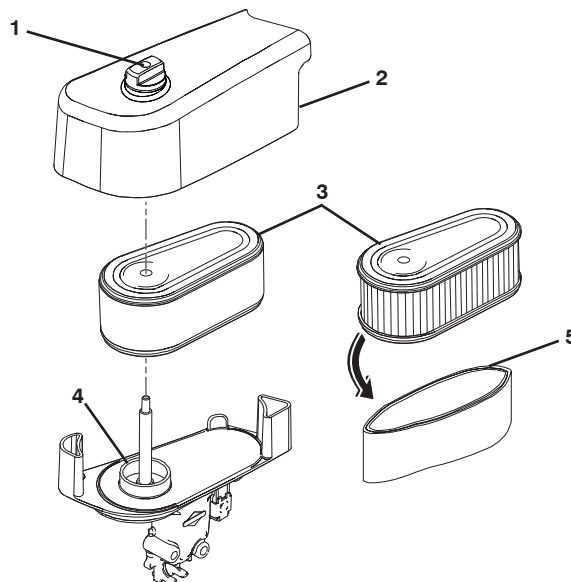

Figure 24
1. Loosen the fastener that holds the cover. Remove the cover (Figure 24).